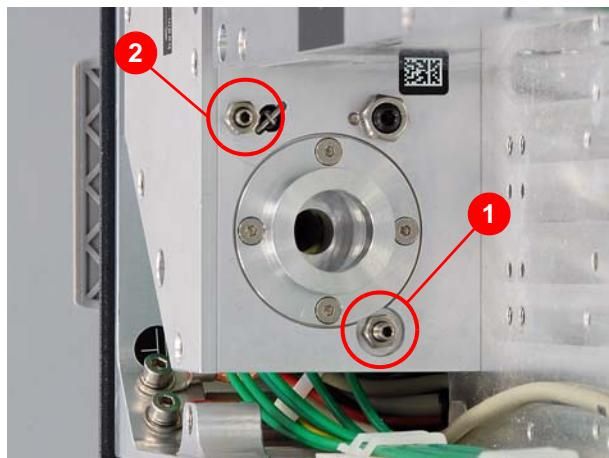

Figure 6.34 Beam adjustment of the lower deflecting mirror
- Horizontal adjustment (1) (Figure 6.34)
- Vertical adjustment (2) ()